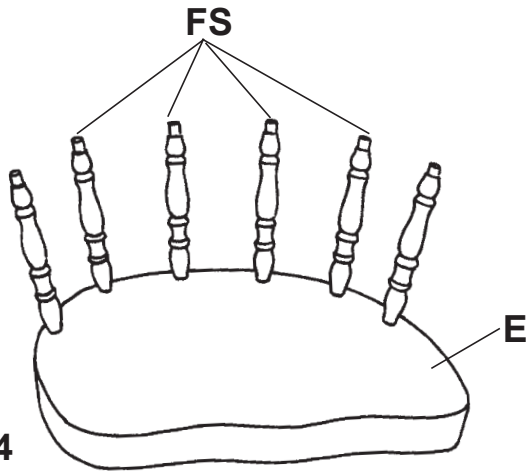

FIG. 4
- 4) Spread glue evenly in the holes in the Seat (E). Working quickly before glue sets, insert the groove coded end of each Back Spindle (FS) into each hole in the seat, as shown in FIGURE 4.